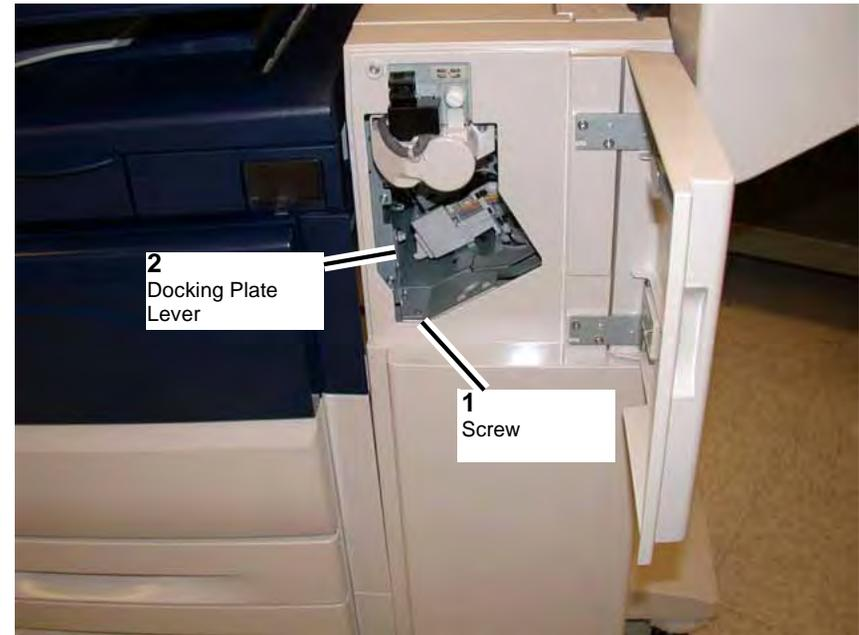

Figure 2 Finisher Lever
- (1) Remove the Screw.
- (2) Pull the Docking Plate Lever towards you and detach the Finisher.(Figure 2).